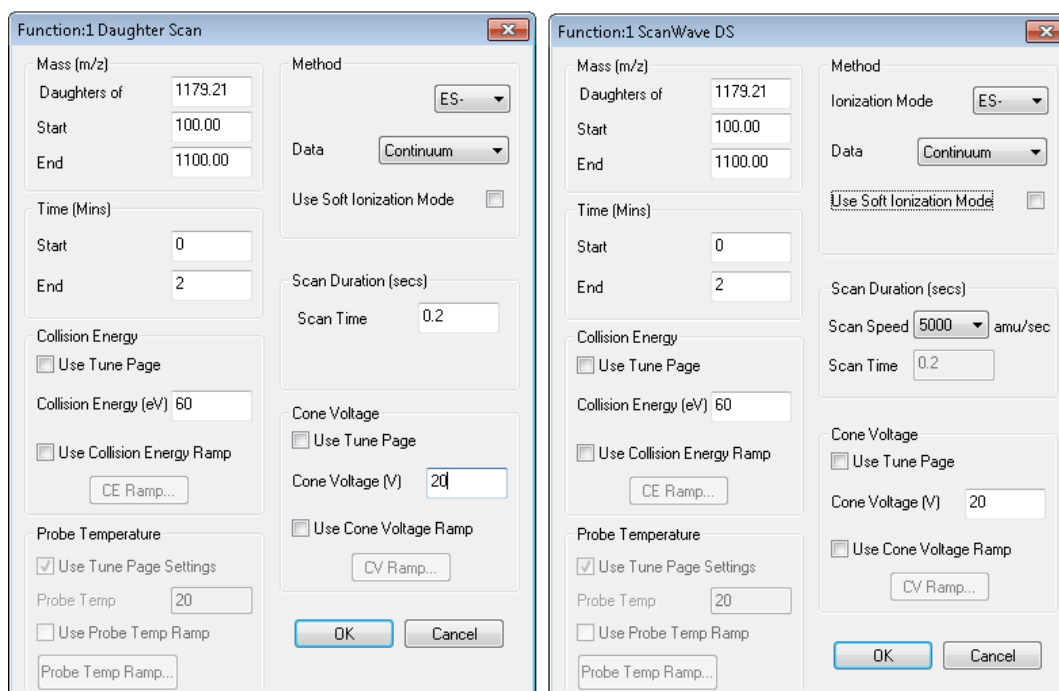

Figure 50 - Daughter scan parameters (left) and ScanWave DS parameters (right)
7. Using the parameters in Figure 50 create two experimental methods, one with a single daughter scan and the other with a single ScanWave DS.